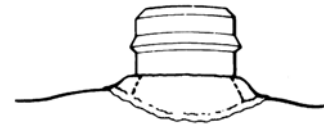

Fig. 13
4. After the boil out, check that the black fabrication males, or ERA Overdenture Metal Jackets, are properly seated on the processing jigs. Block out the remaining exposed surface of each jig, plus a bit of the surrounding model surface, so the processed acrylic will not touch them (Fig. 13). This makes a small space (0.5mm minimum thickness) between the abutment and the denture base, which allows the resilient functioning of the ERA attachment.